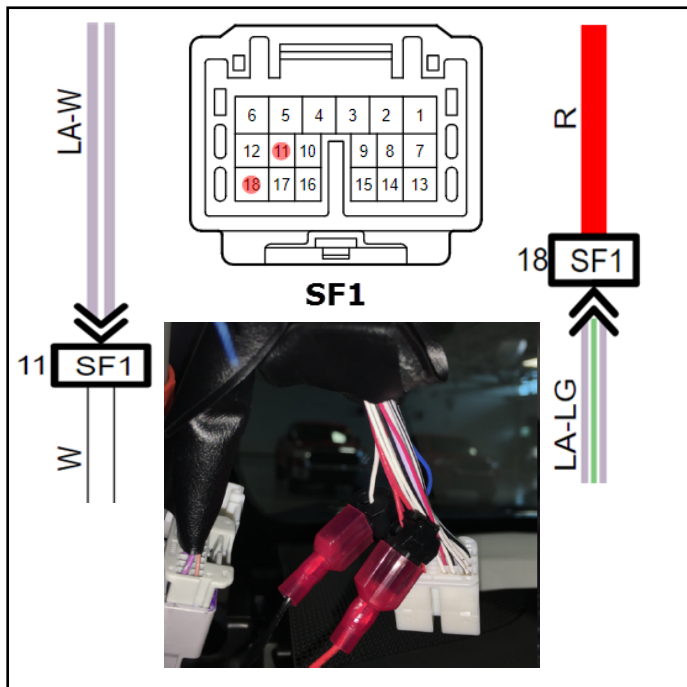

Figure 28
36. Using a Black T-tap, connect the Red wire from the Puddle Light power harness to the Red wire in Pin 18 of the SF1 connector in the A-pillar. See Figure 28.
37. Using a Black T-tap, connect the Black wire from the Puddle Light power harness to the White wire in Pin 11 of the SF1 connector in the A-pillar. See Figure 28.